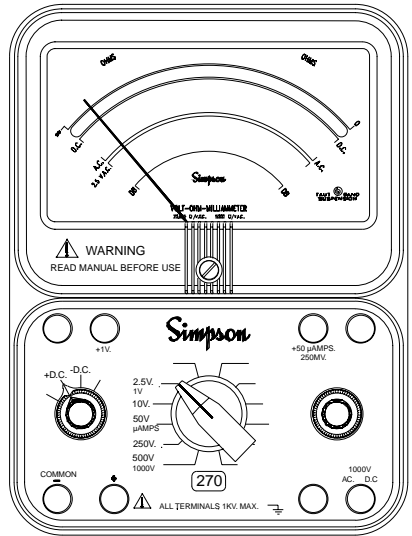

Figure 4-1. Jacks and Switch Positions for Measuring DC Voltages
- Set the function switch at +DC (Figure 4-1).
- Set the function switch at + DC (Figure 4-1).
- a. Set the function switch at + DC (Figure 4-1).